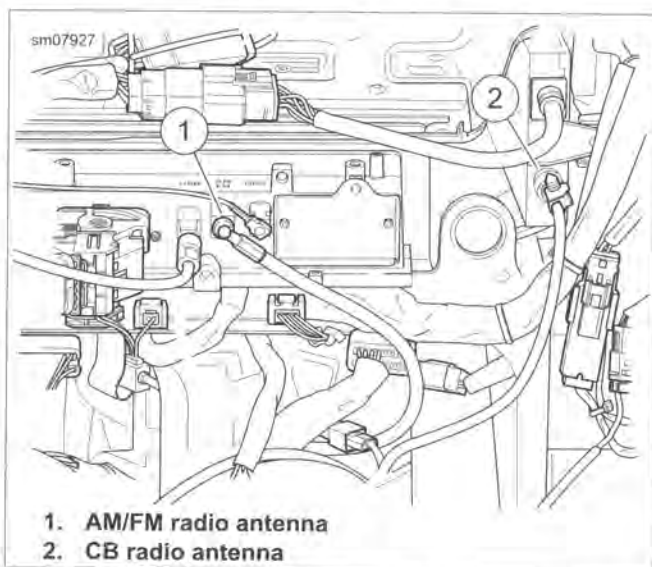

Figure 7-91. Radio Antenna Cable Connectors
3. See Figure 7-91. Disconnect antenna cable from radio. Cut cable where it exits front and rear of the main harness.
1. See Figure 7-91. Connect **new** radio antenna cable connector to radio.